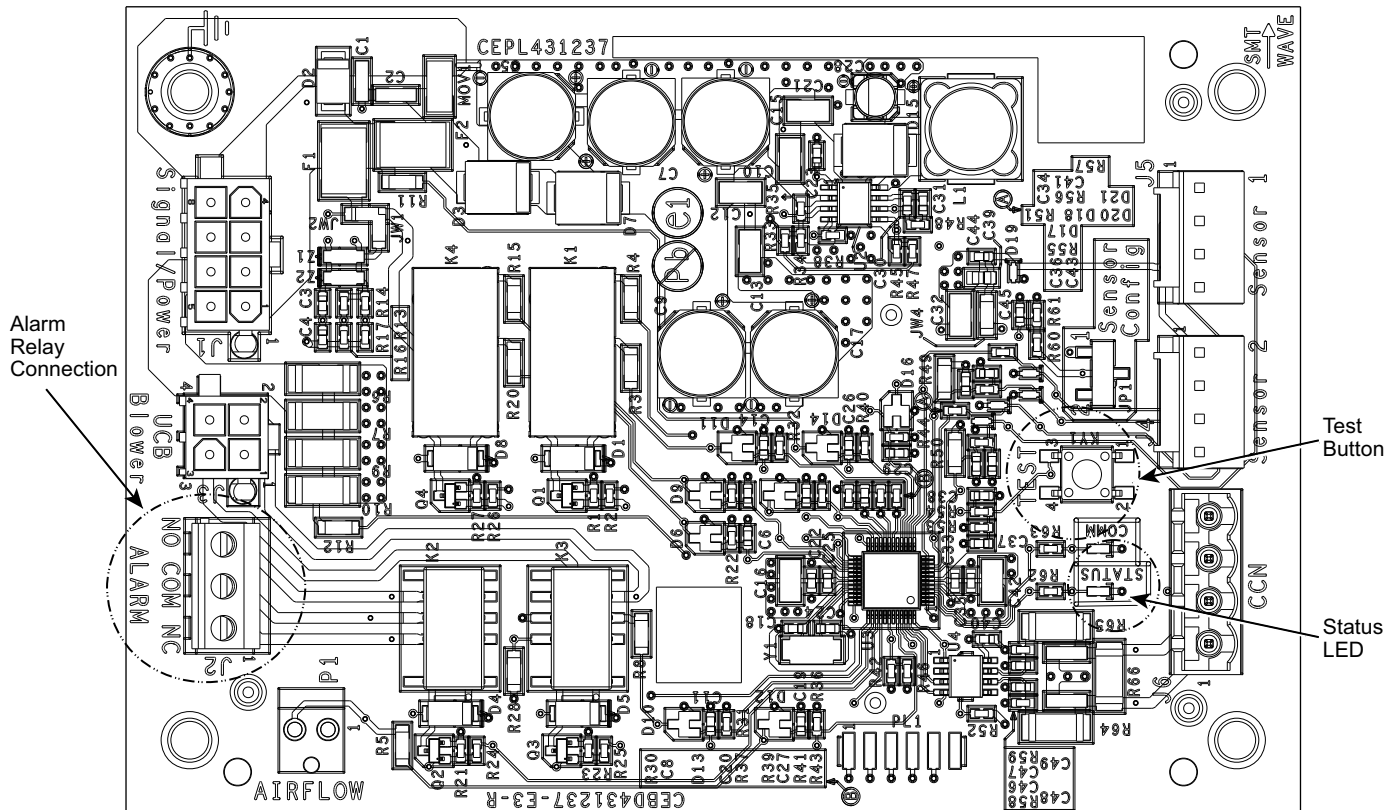

Fig. 19 — A2L Dissipation Board Details
All 48K Series units include a factory-installed leak dissipation system consisting of two leak detection sensors installed in the indoor section of the unit and a leak dissipation board installed on the indoor fan side of the unit. See Fig. 19 on page 18 for dissipation system component locations.
5. Locate the test button on the A2L leak dissipation board. See Fig. 19 for dissipation board details.